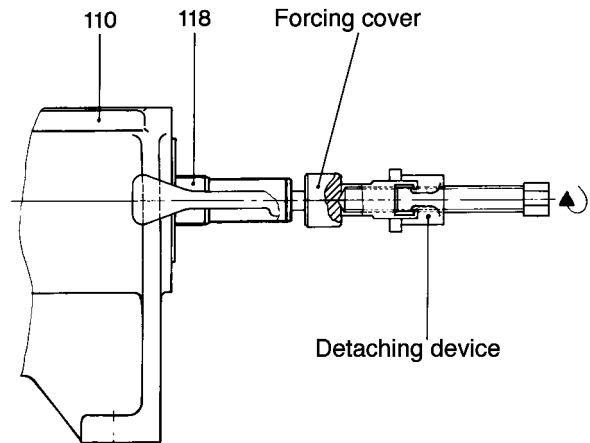

Figure 5: Pressing out of the driving shaft.
- Dismount stator (402) (please refer to Section 7.2.1.1 above).
- Remove hexagon nut (607) and fan-type lock washer (608) as well as hexagon screw (606).
- Withdraw suction casing (505) over the rotor (401). In doing so, see to that the fine-machined rotor is not damaged.
- Remove gasket for suction casing (501).
- Withdraw coupling half and/or belt pulley, and remove key (101).
- Screw out hexagon nuts (139), and remove bearing cover (131) with gasket (132).
- Unscrew bearing nut (116) from the driving shaft (118).
- Press driving shaft (118) with attached rotor (401), attached joint shaft (307) and mounted shaft seal out of the bearing bracket (110). For these purposes, apply pressing device at the bearing bracket (110) (please refer to Figure 5 below).